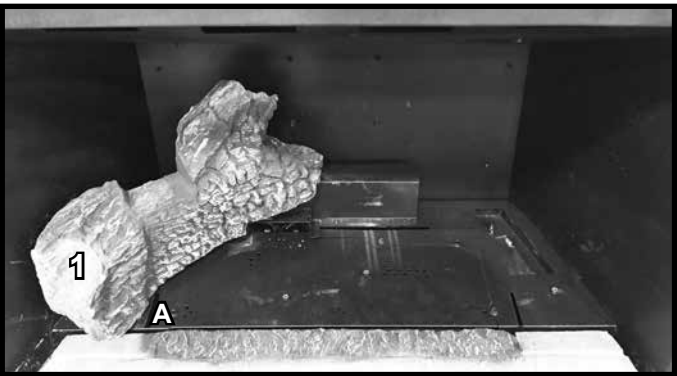

Figure 3. Log #1 Installed
**LOG #1:** Locate the cutout on the end of log 1 and place over the pilot hood and air scoop. The other end of Log #1 will sit against log pin A. See Figure 3.